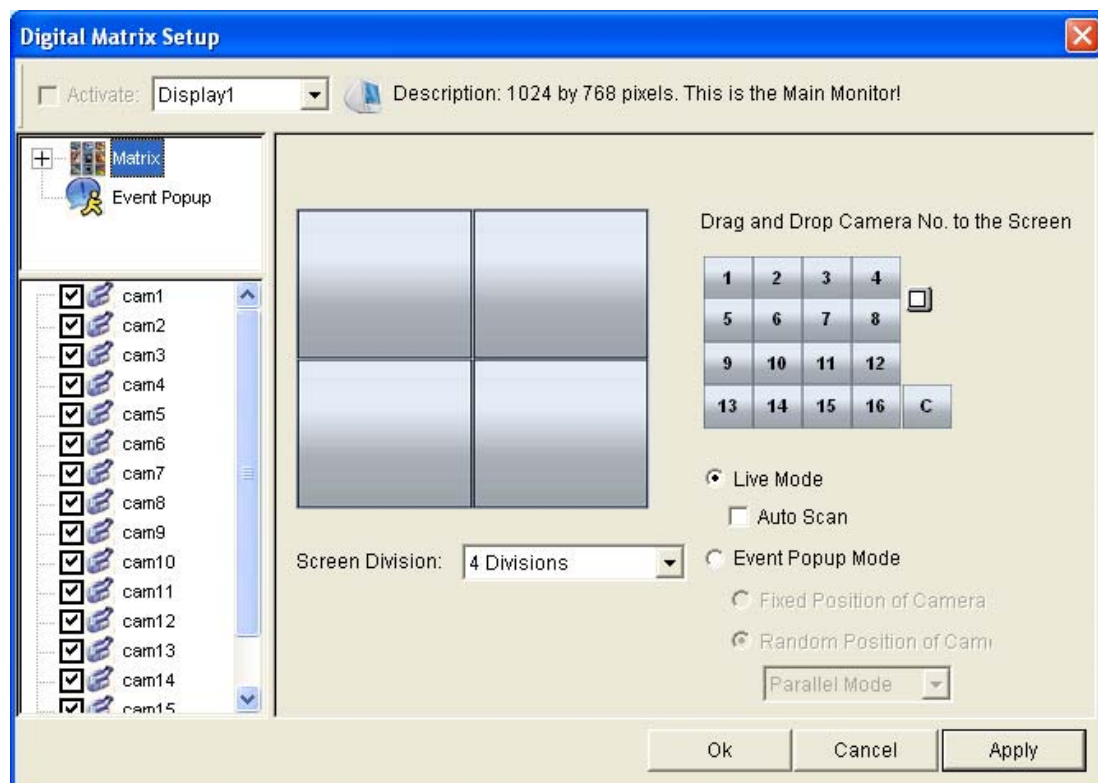

Figure 2-6
9. In the upper-left column, click the **Matrix** icon and return to Figure 2-6.
4. After above settings, click the **Matrix** icon and return to Figure 2-6.
4. Click the **Matrix** icon and return to Figure 2-6. Ensure the **Live Mode** option is selected.